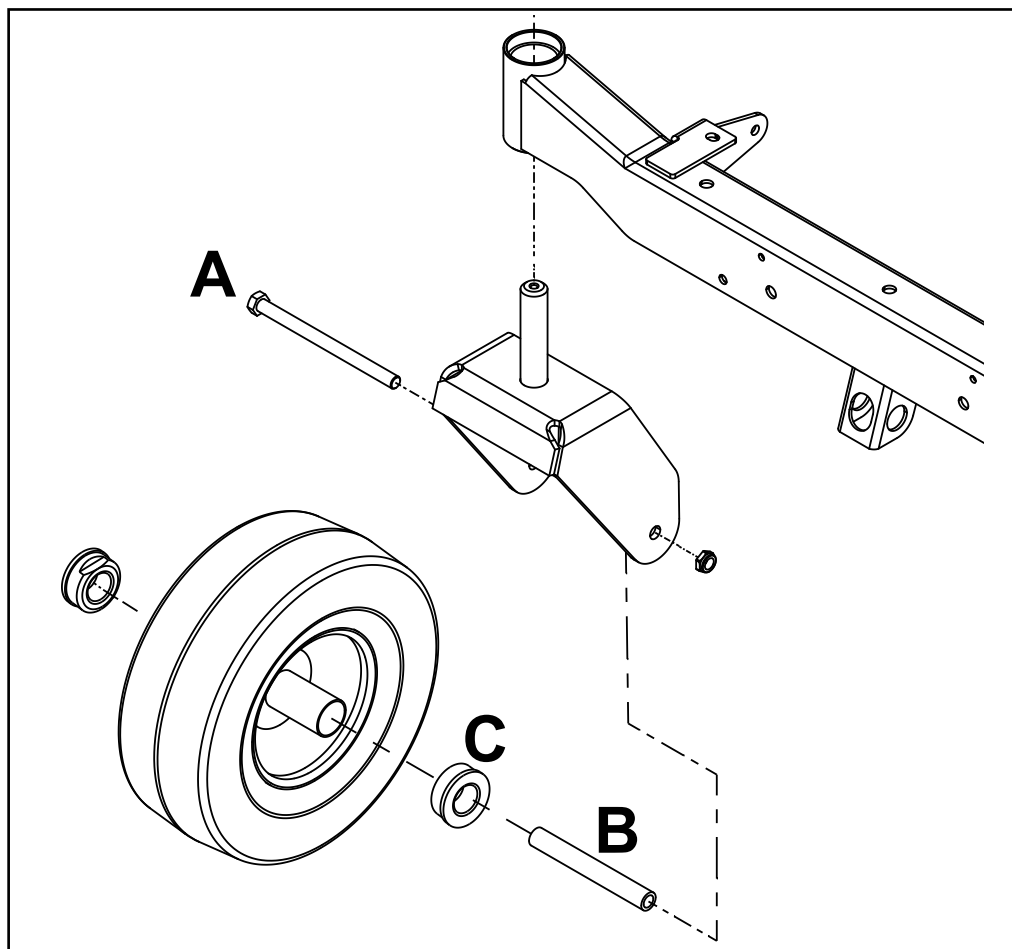

Fig. 008
1. Lightly lubricate bushings (C) and wheel spanner (B) with No. 2 general-purpose lithium base grease. Fill center of wheel hub with grease.
2. Install the (2) bushings (C) into front wheel hub, making sure they are fully seated.
3. Install wheel spanner (B) into the front wheel assembly.
5. Install the nut / bolt (A) and torque nut to specification - 35 ft-lbs. (47 Nm).
7. Safely lower unit and verify proper function. (Fig. 008)